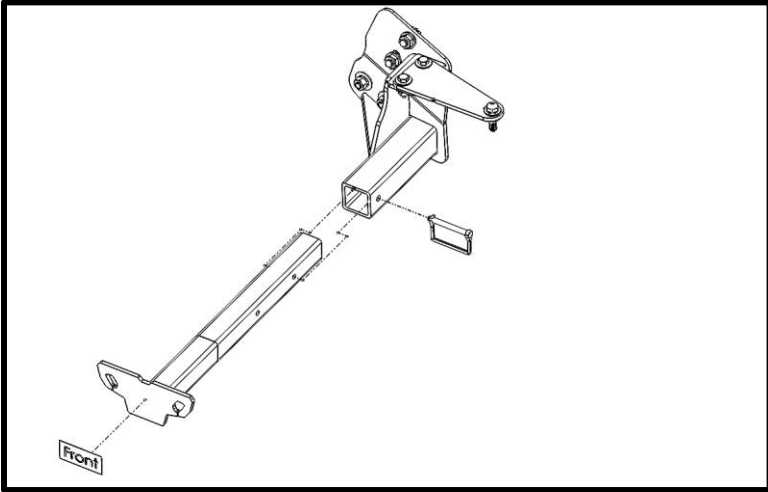

Figure 7.1
- Apply sticker to the Tie Down Insert. See Figure 7.1.